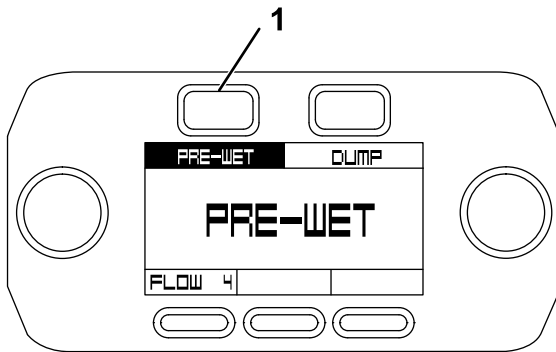

Figure 45
- On the pre-wet screen, press the Pre-Wet button (Figure 45).